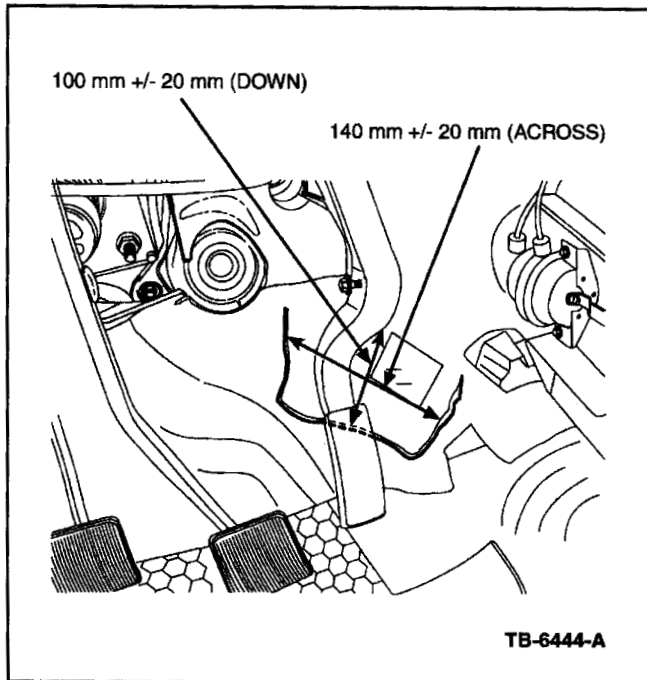
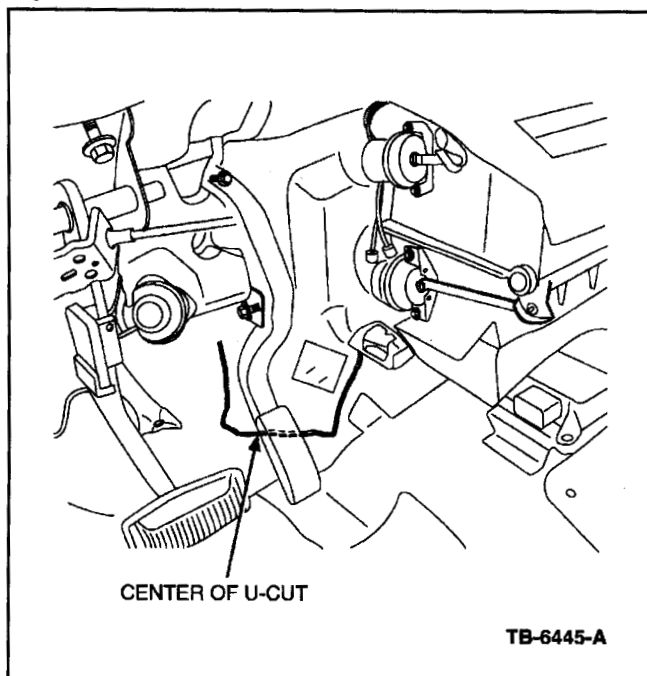

Figure 1 - Article 01-18-7
Figure 2 - Article 01-18-7
2. Make a "u-shaped" cut in the insulator below the throttle pedal bracket, 140 mm wide and 100 mm down  $\pm 20$  mm (5.5" wide by 4" down  $\pm .75$  "), as seen in Figure 1. Make sure to line up the bottom/center of the "U" cut with the throttle pedal bracket, as seen in Figure 2. This will help relieve any tautness in the insulator, so it will sit flush with the floor panel.